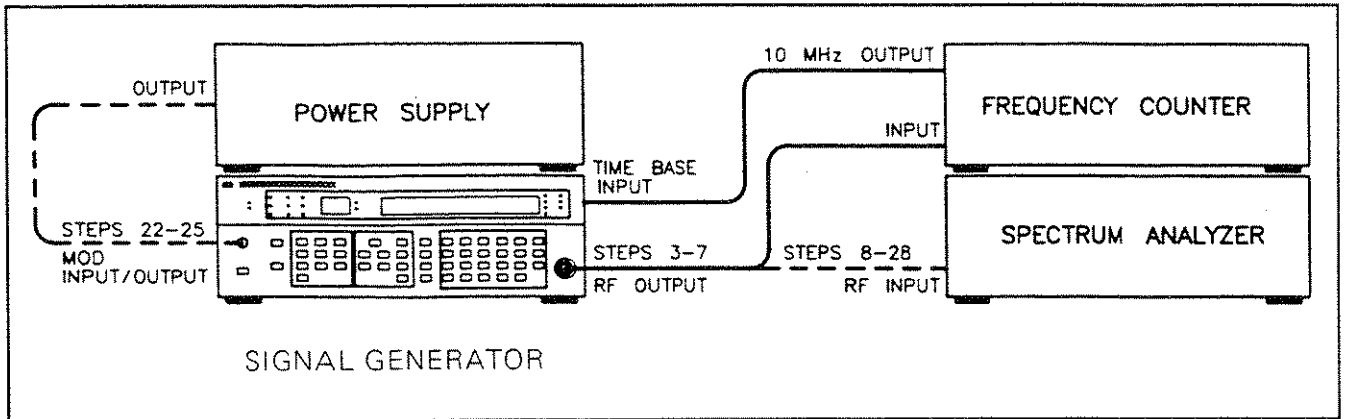

Figure 3-3. Test Setup for Basic Functional Checks
8. Connect the RF OUTPUT of the Signal Generator to the input of the spectrum analyzer as shown in Figure 3-3.
24. Connect a power supply to the MODULATION INPUT/OUTPUT Connector of the Signal Generator as shown in Figure 3-3. Set the power supply for a +1 Vdc output and switch the voltage line on. Notice the LO EXT annunciator will remain on. The carrier frequency displayed on the Spectrum Analyzer should move three divisions to the right. The carrier frequency is offset by 60 kHz.